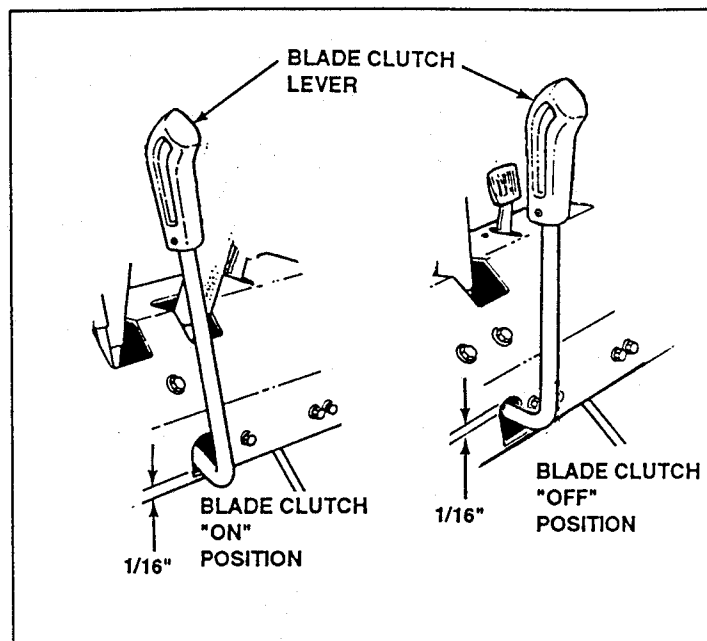

FIGURE 28
2. Check clearance between Blade Clutch Lever and Control Console with Blade Clutch Lever in the OFF and ON position. There should be a 1/16" minimum at bottom of slot (ON position) and top of slot (OFF position). Adjust if necessary per procedure **BLADE CLUTCH LEVER**. See Figure 28.
2. After adjusting Blade Clutch Lever check clearance between Blade Clutch Lever and Control Console with Blade Clutch lever in the OFF and ON position. There should be 1/16" minimum at bottom of slot (ON position) and top of slot (OFF position). Readjust if necessary. See Figure 28.